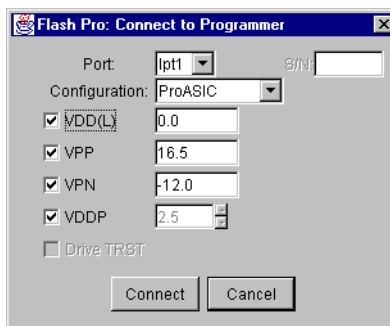

Figure 2-2. Connect to Programmer Dialog Box for ProASIC Devices
4. (Optional) Disable voltages from the programmer if they are available on the board. When you select the ProASIC configuration, the Drive TRST voltage turns grey and becomes unavailable, (see Figure 2-2).